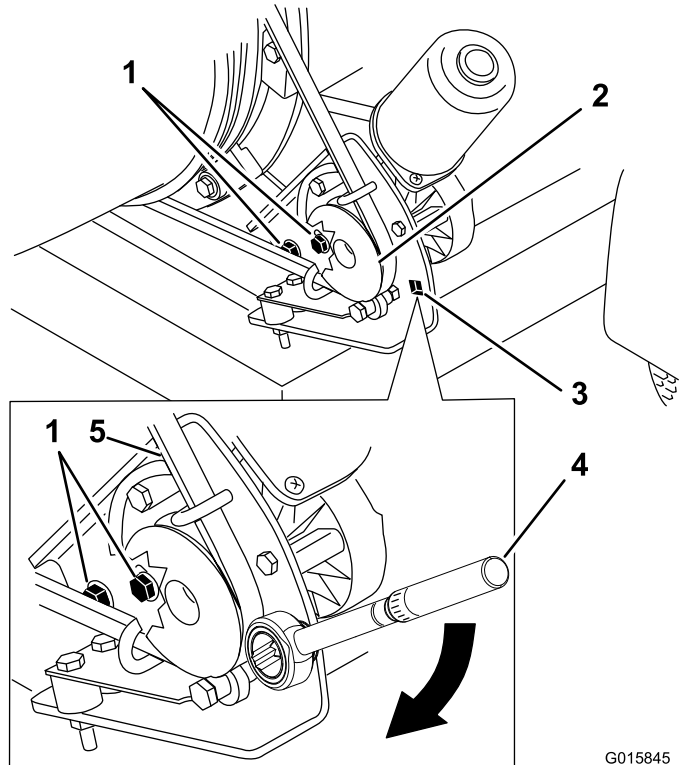

Figure 27
1. Loosen the bolts securing the pulley mounting bracket to the blower frame (Figure 27).
2. Position a torque wrench into the pulley mounting bracket (Figure 27).
3. Pivot the pulley mounting bracket away from the nozzle until the torque wrench reads 22.6 to 26.0 N-m (200 to 230 in-lb) (Figure 27).